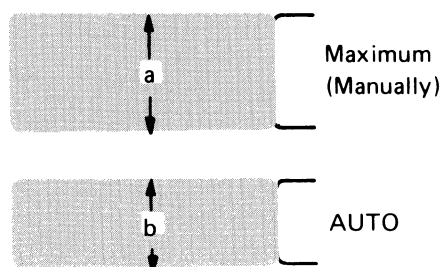

Fig. 24 FM output level
4. Confirm that the level difference between this setting and the maximum level obtained manually as shown in Fig. 24 is: